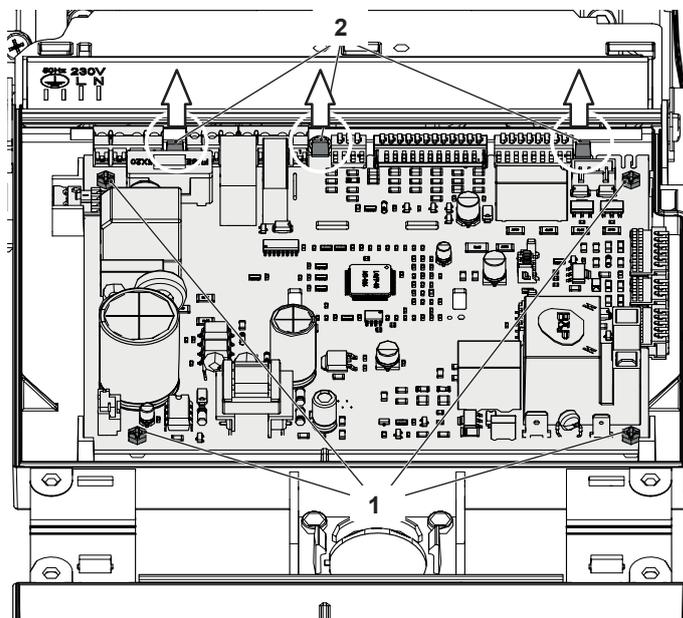

Figure 9.14
- Unscrew the screws "1" (Figure 9.14).
- Delicately flex the hooks "2" in the directions indicated (Figure 9.14) in order to release the circuit from the box.